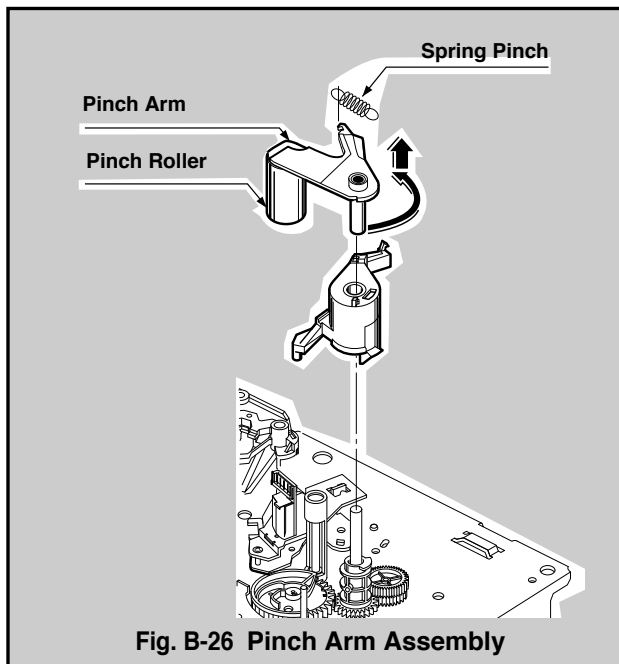

Fig. B-26 Pinch Arm Assembly
26. Pinch Arm Assembly (Fig. B-26)